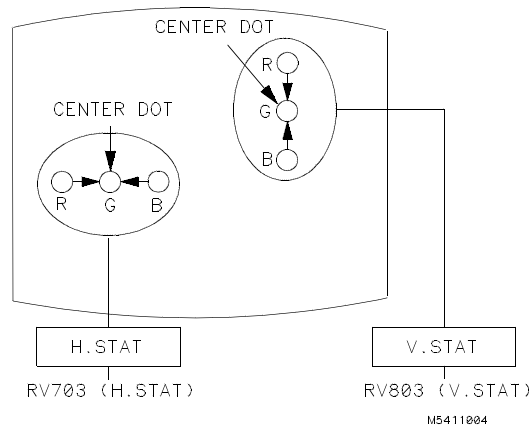

Figure 4-18. Static Convergence
5. Check the four dots located around the center intersection of the cross-hatch pattern for coincidence of blue, red, and green dots. If the dots are not coincident, adjust H.STAT (RV703), located on the rear PC board, to obtain horizontal coincidence and V.STAT (RV803), located on the bottom PC board, to obtain vertical coincidence. See figure 4-18.